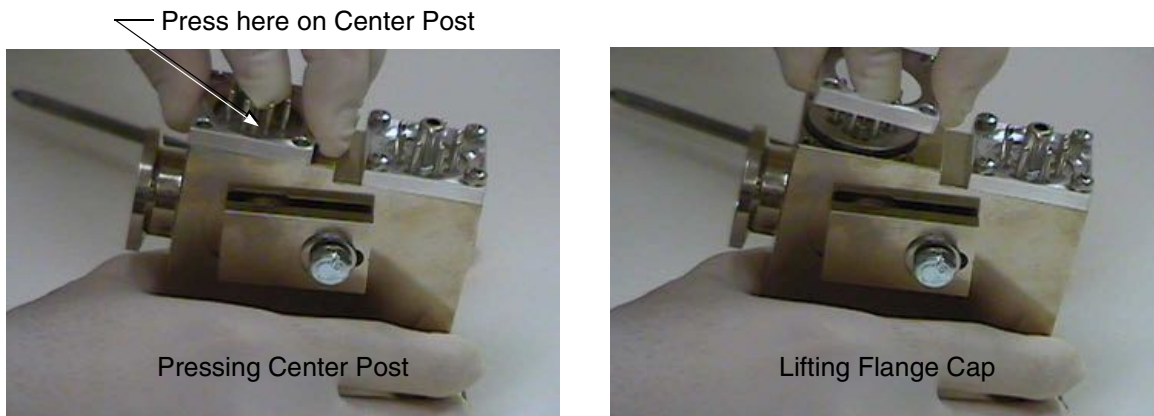

Figure 3-12 Disengaging Flange Cap
8. Remove the ion source flange cap by pressing down on the ion source center post and lifting the flange cap up and off the ion source as shown in the images of Figure 3-12.